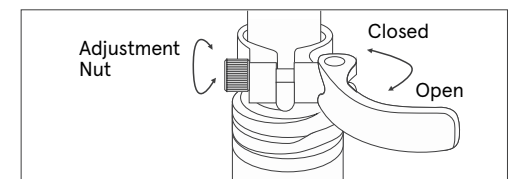

Fig. 11
1. Open the seat post quick release lever **(Fig.11)**. Insert the seat post into the seat tube to sufficient depth so that the minimum insertion line is no longer showing.